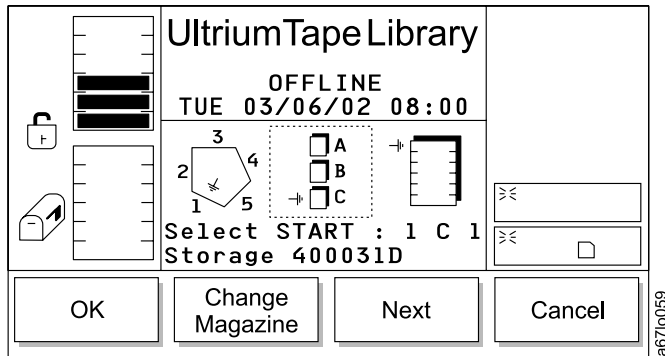

Figure 120. Change Magazine Dialog
- If **Next** is selected, the current source parameter changes from column to magazine and the Change Magazine Dialog displays (see Figure 120 on page 112).